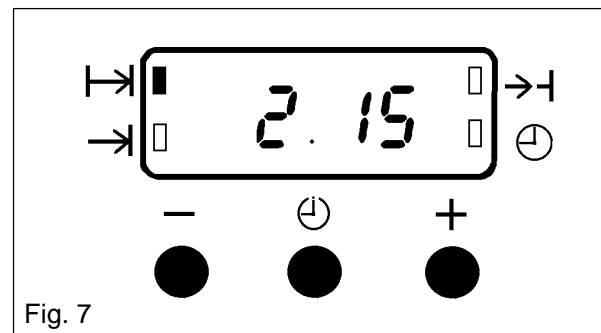

Fig. 7
- iii) To set the length of cooking time, press the Selector Control button (⌚) until the 'Cook Time' indicator is illuminated (→|). Press the increase control ( + ) until the required length of cooking time is displayed, e.g. 2 hrs 15 mins as Fig. 7. If necessary depress the decrease control ( - ) until the correct time interval is achieved.